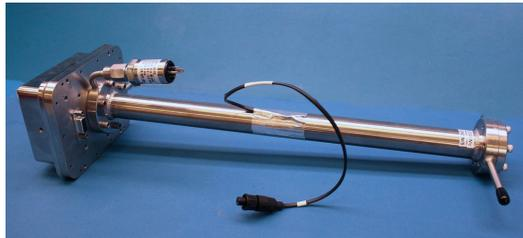

Figure B-5 Removed measurement cell with pressure sensor face up
11. Dismount the cell from the bracket by removing the four securing screws (four on top and four on the bottom) using a 9/64 in. Allen wrench. Place the measurement cell on a clean, flat surface with the pressure sensor facing up. Refer to Figure B-5.